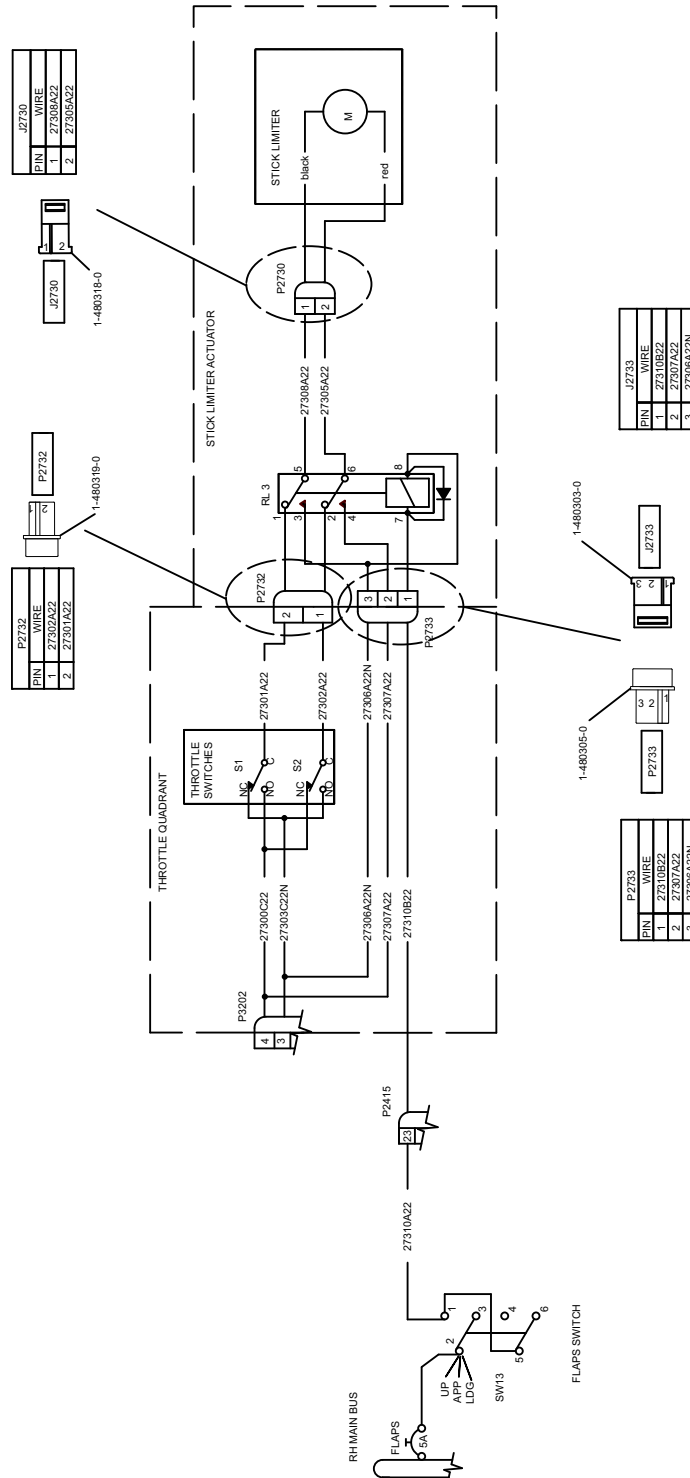

Figure 1 - Stick Limiter Schematic
- 10.5 At the Flap switch, if wire 27310A22 is installed, move the ring terminal from terminal 3 to terminal 1. Refer to Figure 1.
- 10.12 Remove the caps from the stowed wires for connectors P2732, J2730, J2733 and P2733. Terminate the wiring as shown in Figure 1 at switch RL 3 and apply the correct labels (P/N PS-250-2WT-2) provided.
- 10.14 If wire 27310B22 is not installed in pin 1 of P2733, do as follows: Refer to Figure 1.
- 10.15 If wires 27306A22N and 27307A22 are not installed in either P3202 or P2733, do as follows: Refer to Figure 1.
- 10.15.4 Connect wires in the P2733 as shown in Figure 1.